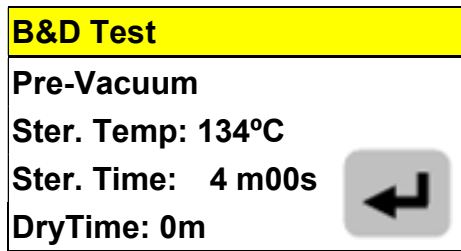

Figure 116
E. Press  button to confirm the selection of B&D Test Program, as shown in Figure 116.